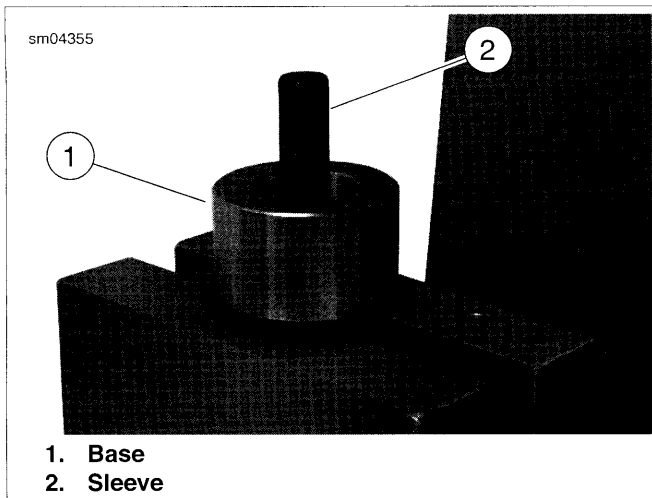
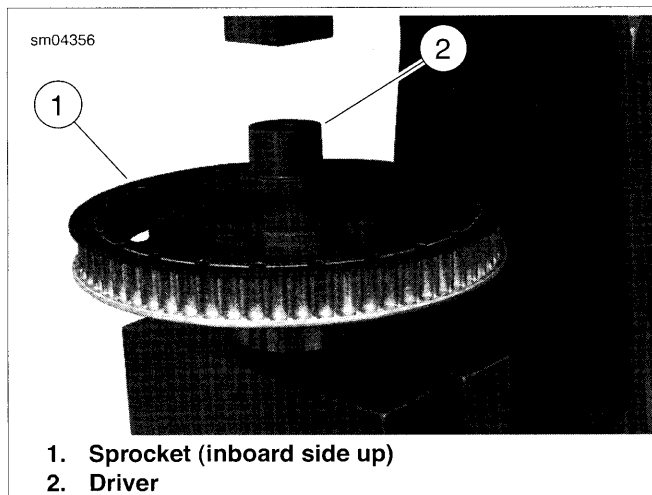

Figure D-3. Position Tool for Bearing Removal
Figure D-4. Remove Compensator Sprocket Bearing
4. See Figure D-3. Place parallel press blocks on deck of arbor press. Leave gap between press blocks to accommodate base pin in next step.
5. Position base (1) on press blocks with the large OD top-side.
6. Slide sleeve (2) over base pin.
7. See Figure D-4. With the inboard side facing up, slide sprocket (1) over sleeve until it rests on base.
8. Slide small OD of driver (2) over sleeve until contact is made with inner race of bearing.